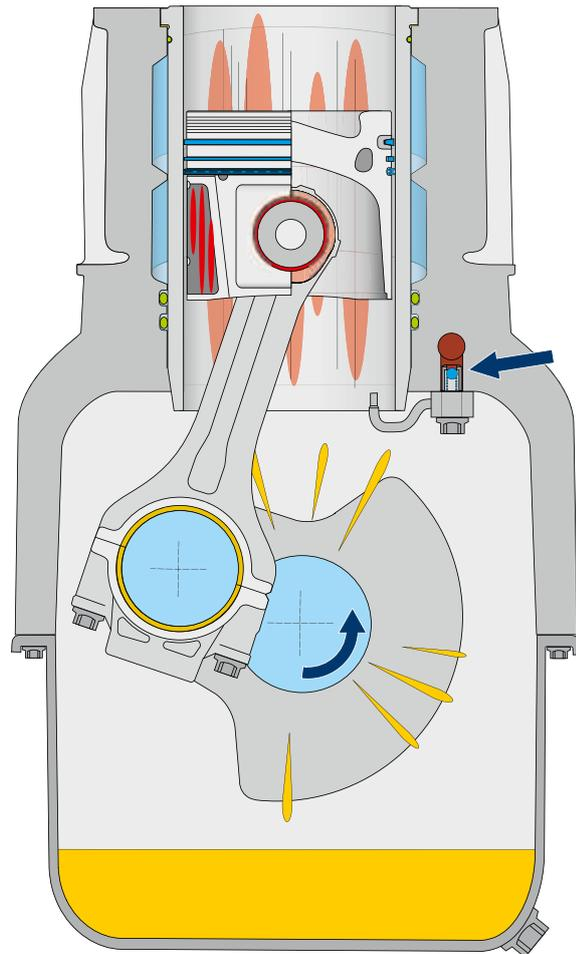

Fig. 1: poor lubrication with excessive idle operation
- Not enough oil emerges from the anti-friction bearings, with the result that too little oil is sprayed onto the cylinder wall. Dirt and abrasion are not washed off, which causes considerable premature wear or even damage (Fig. 1).
- The pressure valve (arrow in Fig. 1) for the piston cooling spray does not open at idle. The piston is not cooled and a lack of oil droplets leads to poor lubrication at the gudgeon pin and the small end bush.